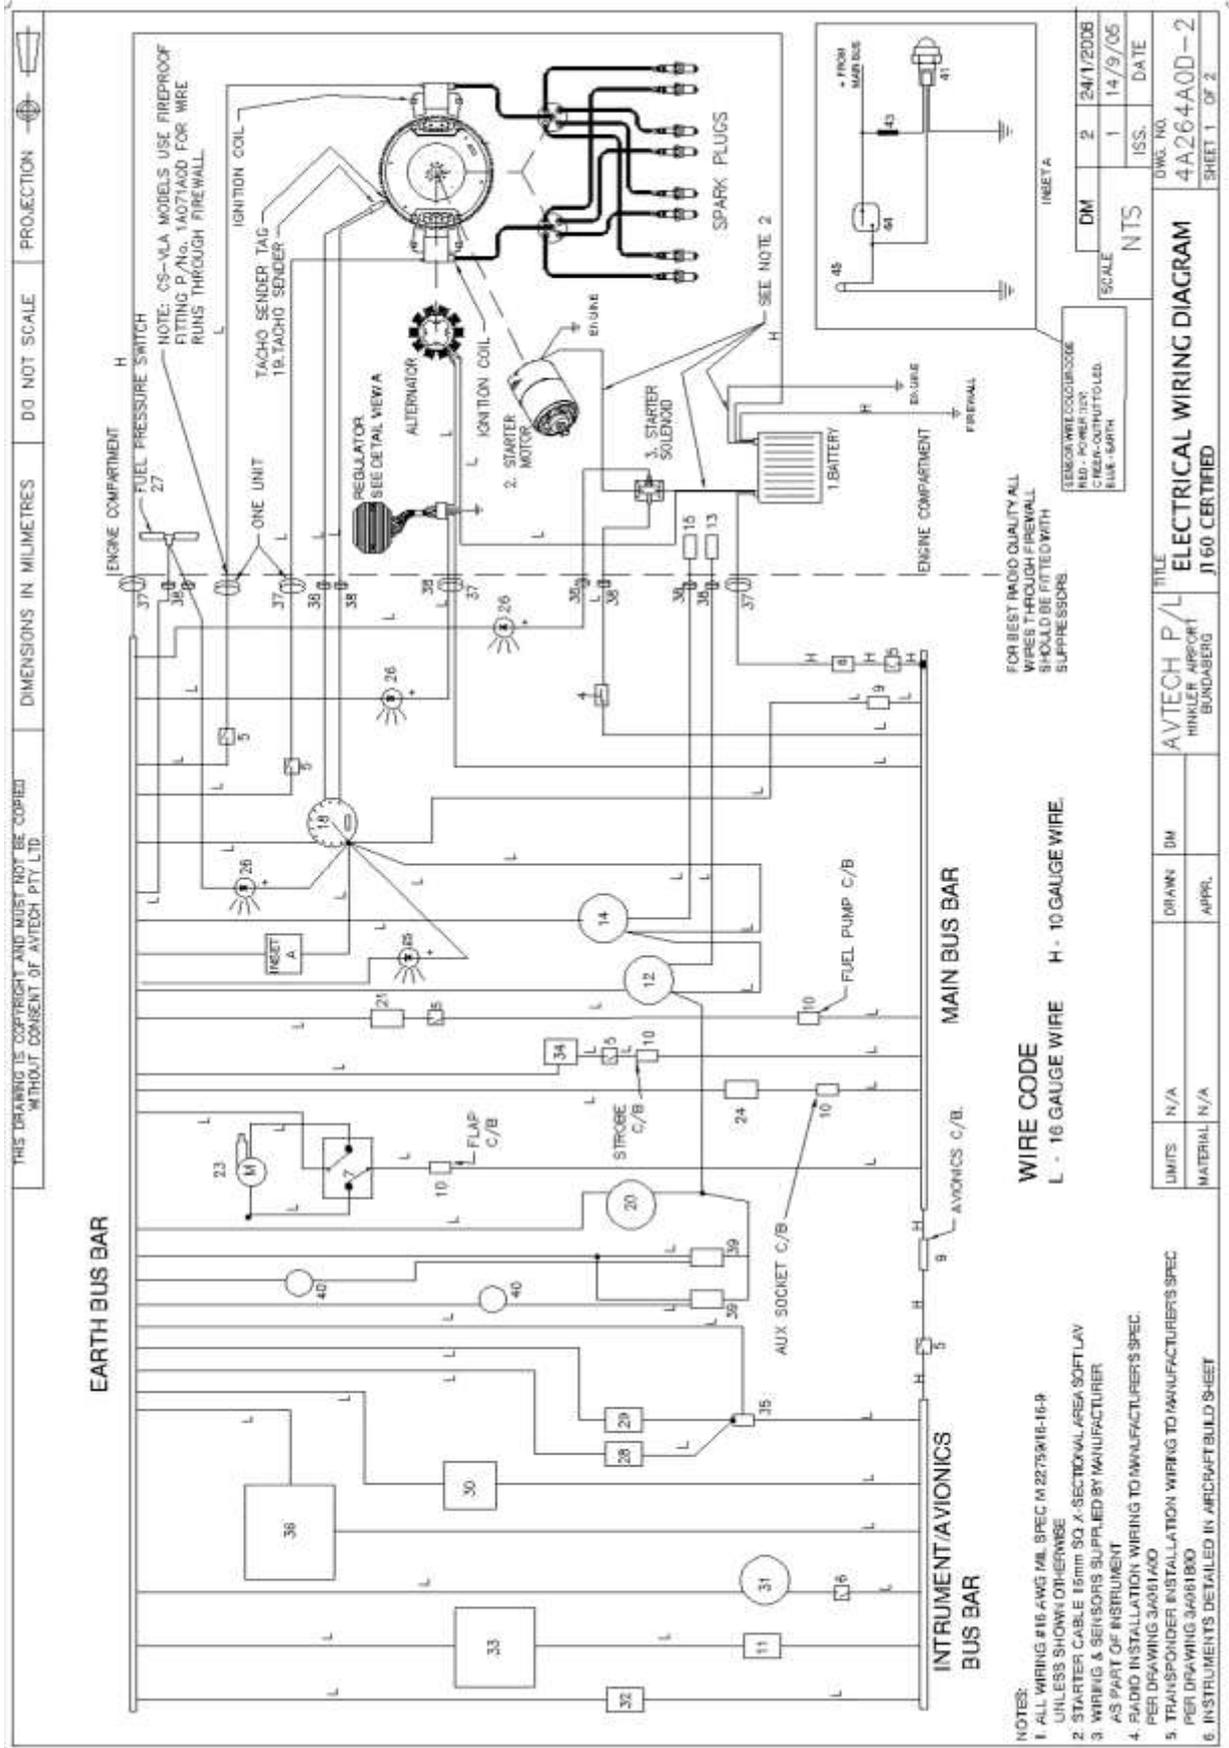

Figure 26. Wiring Diagram
- Wiring details are shown in Figure 26.
- General wiring information for the Tachometer is given in the Wiring Diagram, Figure 26. Detailed instructions on it's installation are supplied by the instrument manufacturer.
4.9 Radio Frequency (RF) Noise Reduction
- If the aircraft has a metallic firewall it can be used as a shield to block the majority of RF noise. To be most effective any wire that passes through the firewall should be fitted with a Ferrite Bead (also known as a Suppressor or RF Suppressor). Bundles of wires can have a single large Suppressor fitted rather than a Suppressor for each wire. The wiring diagram in Figure 26 shows suppressors in schematic form. These suppressors are readily available at local electronics stores.